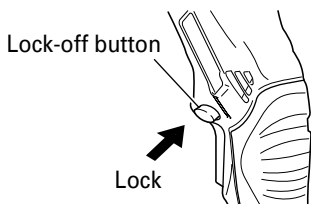
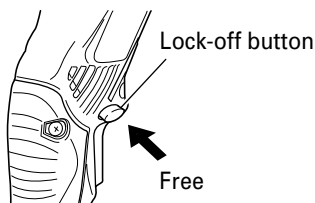

Fig. 21
Fig. 22
- (1) The tool is equipped with a lock-off button. To activate the trigger lock, move the button to the right position. Move the button to the left to operate the tool. (Fig. 21, Fig. 22)